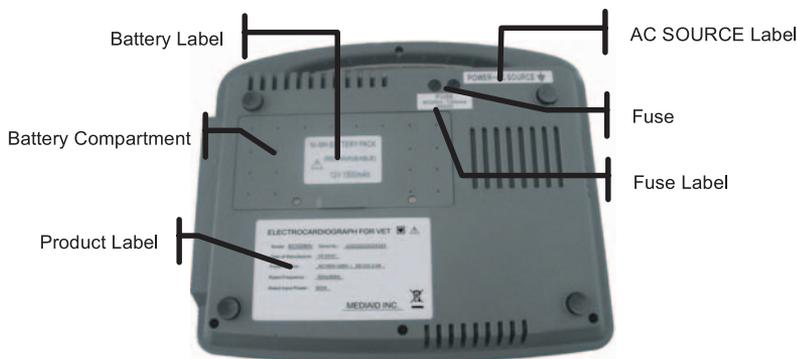

Figure 3-8 Bottom Panel
4) Contrast Adjustor/Potentiometer (See Figure 3-8)